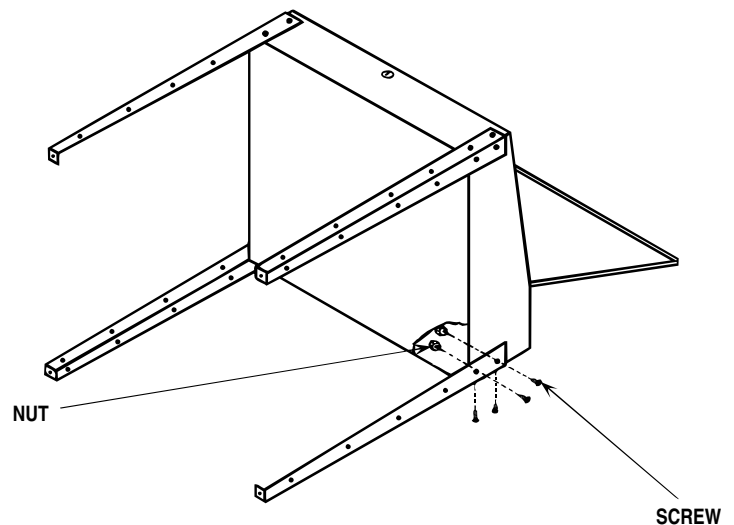

FIGURE 2
3. Using four (4) nuts and screws (Items 6 & 7 respectively) for each leg assembly (Item 3), attach one leg assembly to each corner of the shop desk assembly. See Figure 2. **Finger tighten only** - sixteen (16) nuts and screws.